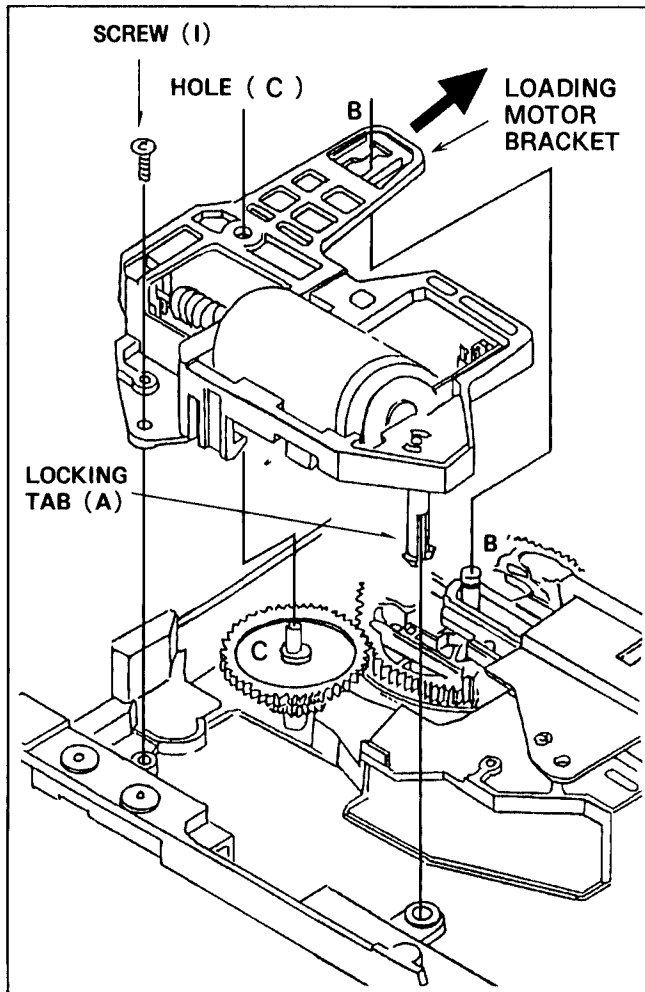

Fig.M11
1. Unscrew screw (I).
2. Unlock the locking tab (A) from the top of the mechanical chassis.
3. Lift up the Loading Motor Bracket and push it to direction of arrow mark as shown in Fig.M11.
4. When reinstall the Loading Motor Unit, insert the locking hole (B') of Loading Motor Bracket Unit to shaft (B) on the mechanical chassis. Also a hole (C) of the loading Motor Unit must be matched to the shaft (C') as shown in Fig.M11.